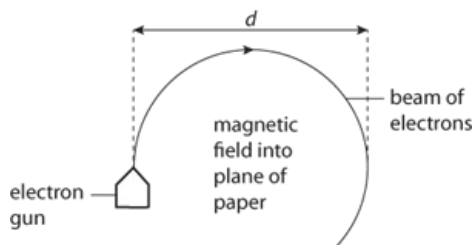

Figure 14.6: Path of electrons in a magnetic field.
When a beam of electrons enters a uniform magnetic field at right angles to the direction of the field, the electrons are deflected in a circular direction as shown in Figure 14.6. This experiment may be demonstrated using an electron tube. A pair of Helmholtz coils can be used to create a uniform magnetic field.
- 1 The apparatus is set up to produce a beam of electrons that is deflected, as shown in Figure 14.6.